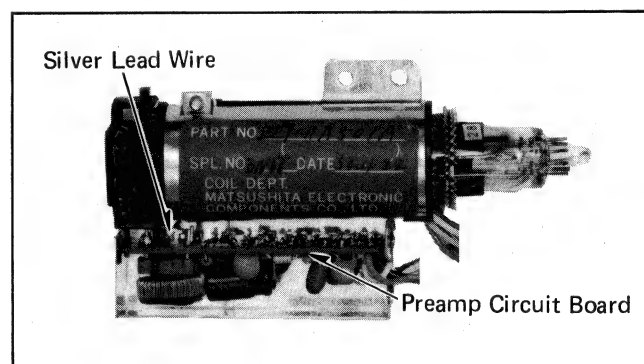

Fig. 8 Preamp and D.Y Yoke Assembly
- 3-7. Unsolder and remove the silver lead from the preamp circuit board (see Fig. 8).